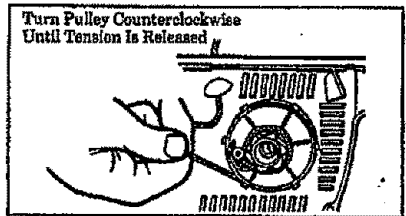

Figure 38
3. If the starter rope is not broken, release the spring tension by pulling about 10 inches of rope from the pulley as shown in Figure 38. Catch the rope on one of the tabs. Figure 38.